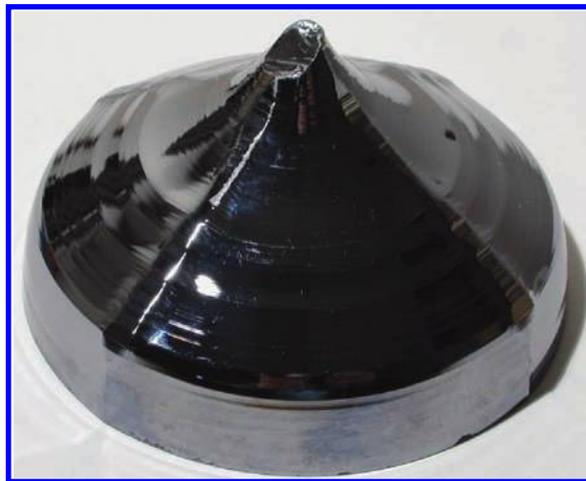

FIGURE 1.23
- Silicon crystals (read: a regular arrangement of atoms inside the material, and the preferred form for building electronics, as we will see) can be grown amazingly large and virtually defect free— at present, to a gargantuan size of 12 in. (300 mm) in diameter by roughly 6 ft long, weighing thousands of pounds! These perfect silicon crystals (called a silicon *“boule”*— rhymes with *“jewel”*) are literally the largest, most perfect crystals on the face of the Earth. It is (perhaps) a shame that crystallized silicon, despite the fact that it shares an identical structure with that of crystallized carbon (our beautiful diamond gemstones), ends up with an opaque, uninspiring, grayish-silver hue (Figure 1.23).